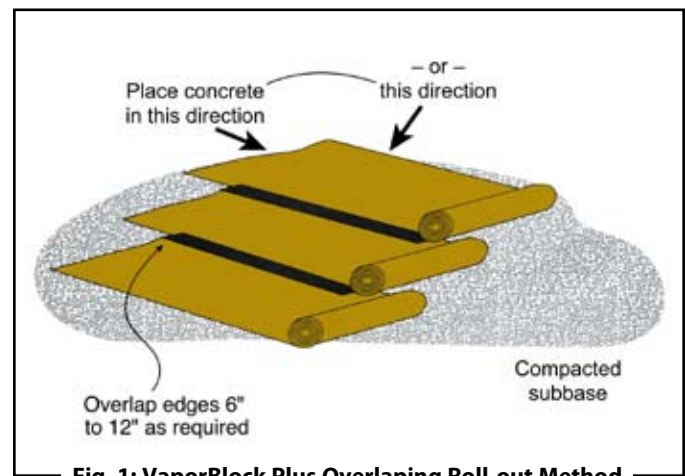

Fig. 1: VaporBlock Plus Overlapping Roll-out Method
- 1.2. Unroll VaporBlock Plus running the longest dimension parallel with the direction of the pour and pull open all folds to full width. (Fig. 1)